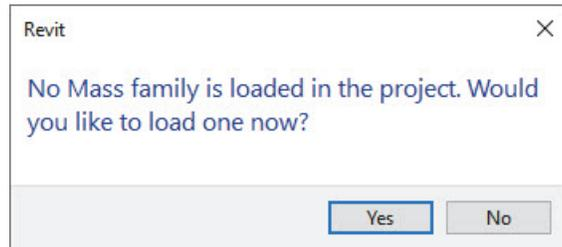

Figure 1–10
2. In the Type Selector, select a mass type, as shown in Figure 1–11.